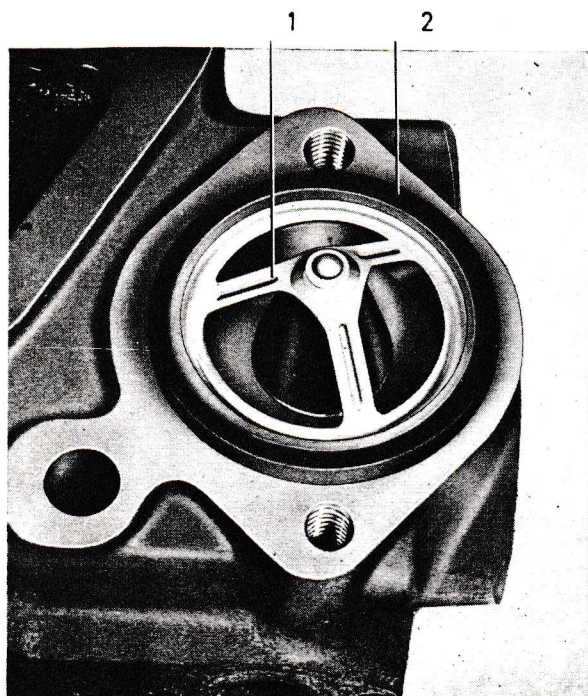

Fig. 31. Replacing the thermostat
3. Replace the thermostat (1, Fig. 31). Use a new gasket. Check the valve on the underside of the thermostat by pressing in and releasing the spring-loaded valve disc.